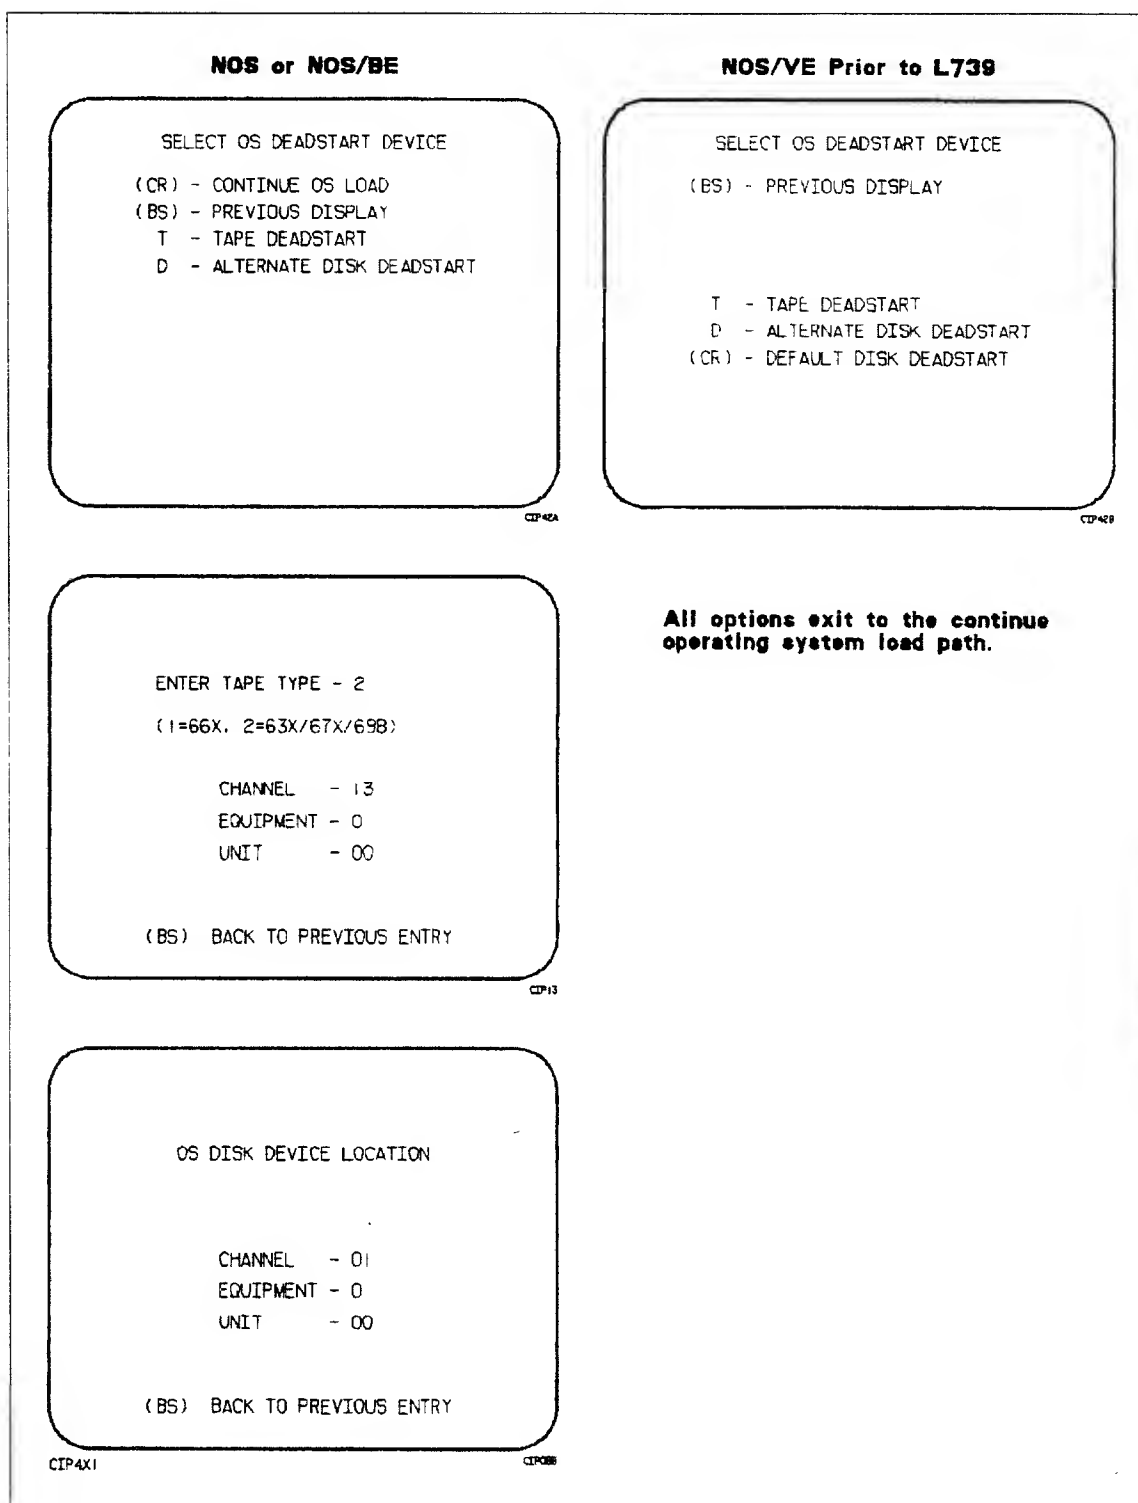

Figure 2-8. Deadstart Device
Select this option from the OPERATOR INTERVENTION display to specify an alternate disk or a tape device as the OS Load Device. From the SELECT OS DEADSTART DEVICE display (refer to figure 2-8), press (CR) to cause system deadstart processing to continue with no further intervention on your part. You cannot select additional options after this entry; therefore, the deadstart disk is the OS device.
Press **Backspace** to return to the OPERATOR INTERVENTION display. Table 2-4 describes the allowable entries for the SELECT OS DEADSTART DEVICE display(s) shown in figure 2-8.